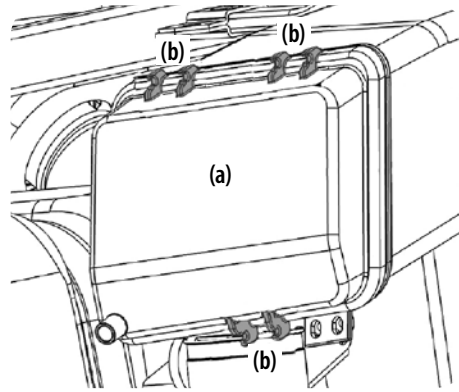

Figure 5-27
2. Remove the air filter cover (a) from the three air filter cover holders (b). See Figure 5-27.